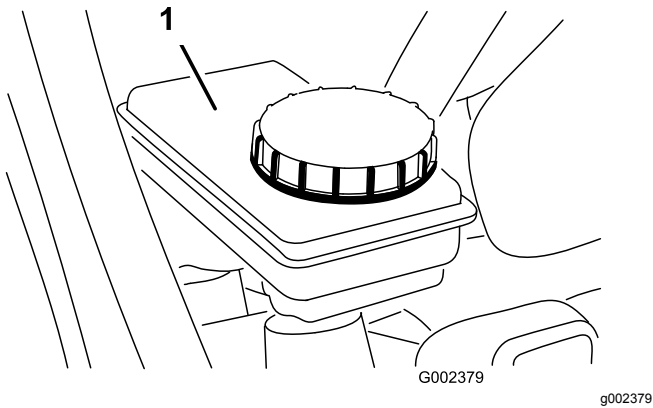

Figure 73
5. Check the fluid level in the brake-fluid reservoir (Figure 72 and Figure 73).
- A. Clean the area around the cap for the reservoir (Figure 73).
- B. Remove the reservoir cap (Figure 73).
- C. Add the specified brake fluid to the Full line on the reservoir (Figure 73).
- D. Install the cap (Figure 73).